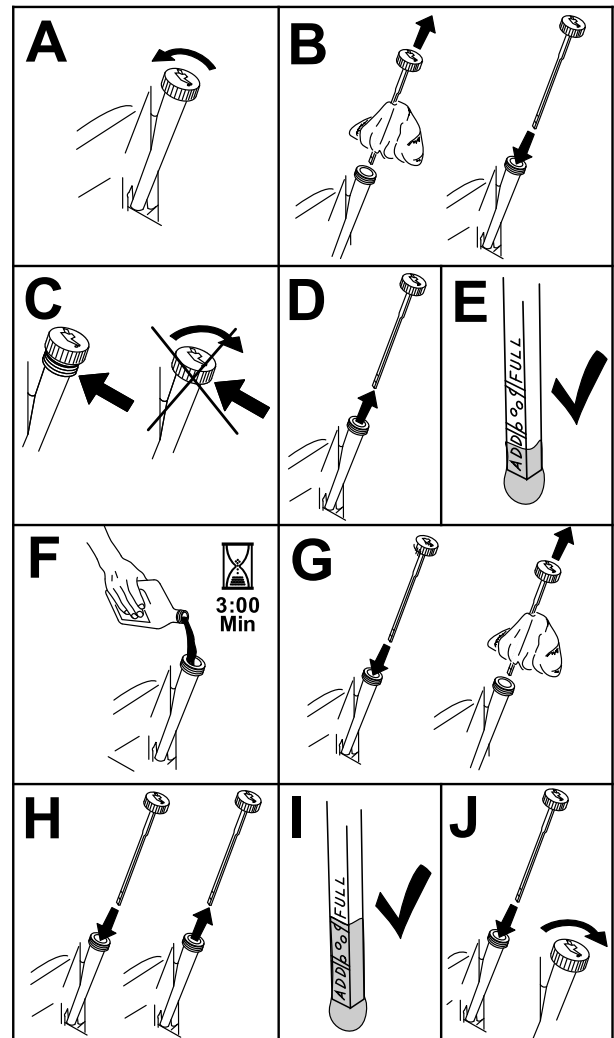

Figure 47
3. To keep dirt, grass clippings, etc., out of the engine, clean the area around the oil-fill cap and dipstick before removing it (Figure 47).